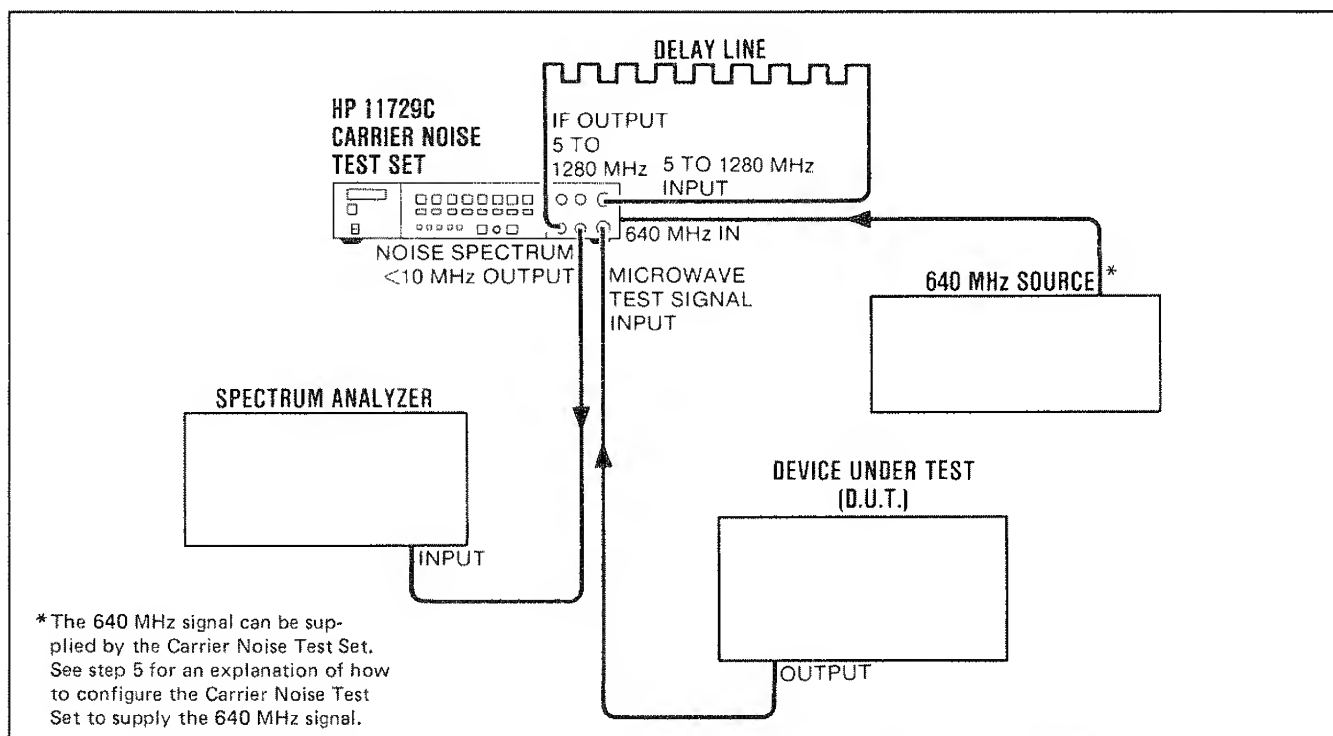

Figure 3-7. Interconnections to the Carrier Noise Test Set When Making a Phase Noise Measurement (Using the Frequency Discriminator Method)
1. Figure 3-7 shows interconnections to the Carrier Noise Test Set when making a phase noise measurement.